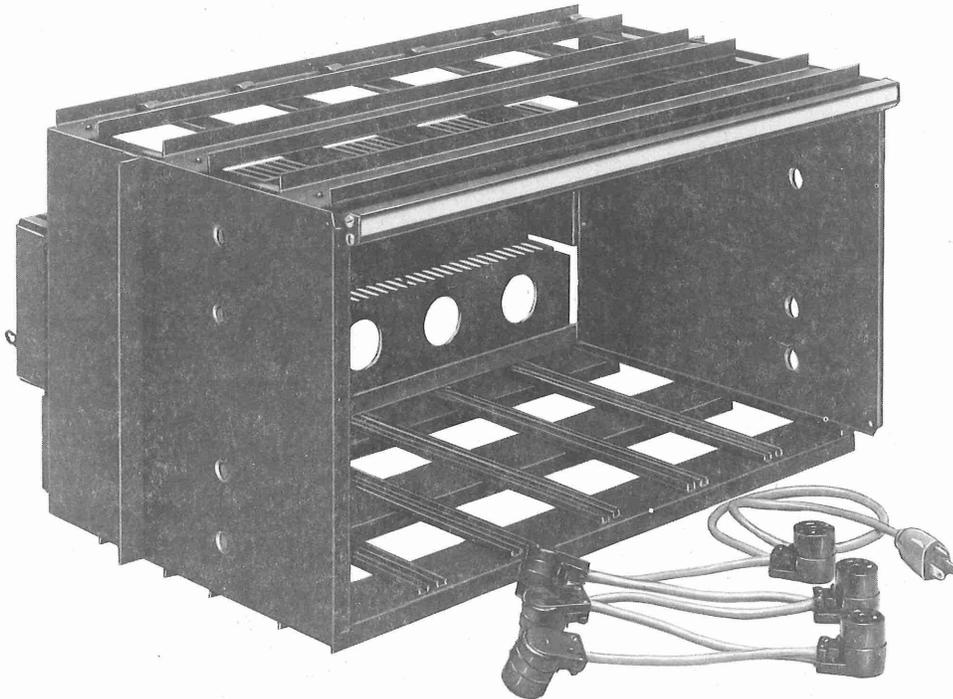

Fig. 1—Front View of 42A-Type Data Mounting
1.01 This section contains information pertaining to the 42A1 and 42A2 data mountings used with data set 201C. A front view of the 42A-type data mounting is shown in Fig. 1.
1.02 This section is reissued to update Fig. 1 to show the latest configuration of the 42A-type data mounting.